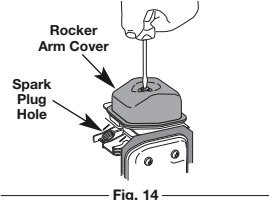

Fig. 14
5. Clean dirt from around the rocker arm cover. Remove the screw holding the rocker arm cover with a large flat blade screwdriver or Torx T-25 bit (Fig. 14). Remove the rocker arm cover and gasket.
- The piston is at the top of its travel while looking in the spark plug hole (Fig. 14).